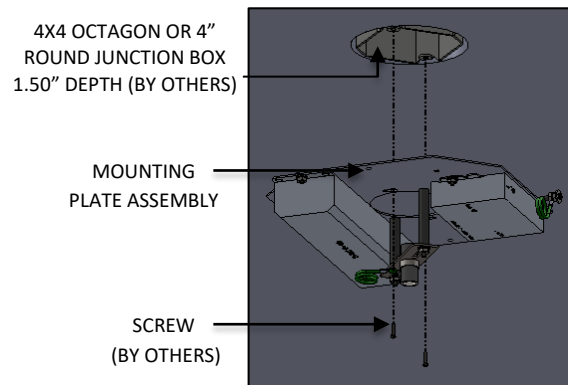

FIG. 8 – MOUNTING PLATE
3. Attach MOUNTING PLATE to JUNCTION BOX (by other) as shown below in FIG. 8.